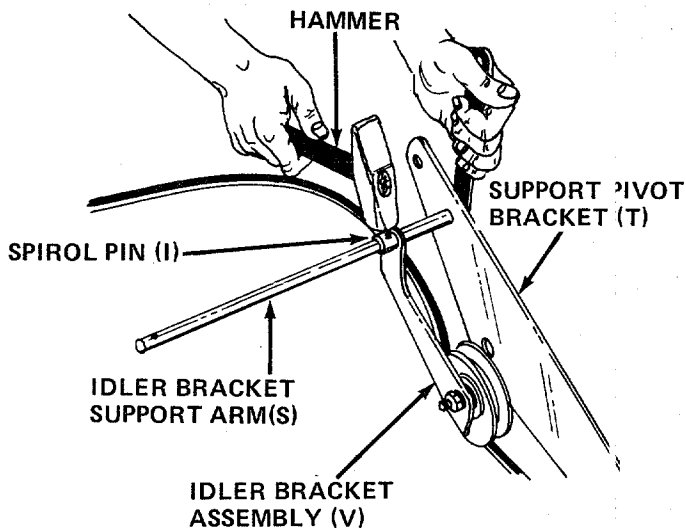

FIGURE 4
B. Next, slide the idler bracket assembly (V) over the idler bracket support arm. Secure with spirol pin (I). See figure 4.